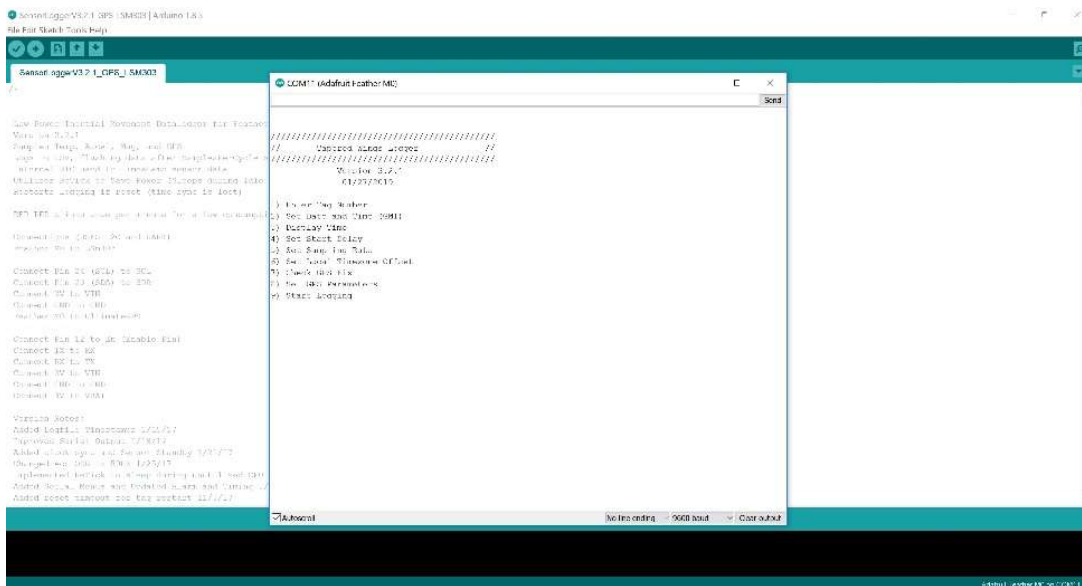

Fig. B5. Serial monitor parameter options.
- b. for the parameter you would like to define, then press enter. When prompted, enter preferred settings (Table B1; Fig. B5).